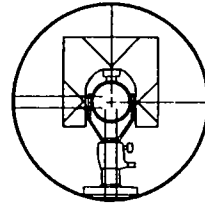

Fig. 41
N.B. 1. When the Light intensity coming back from the prism is very high, the light value lamp may light up even for a slight mis-sighting. Make sure that the target center is sighted correctly, Fig. 41.